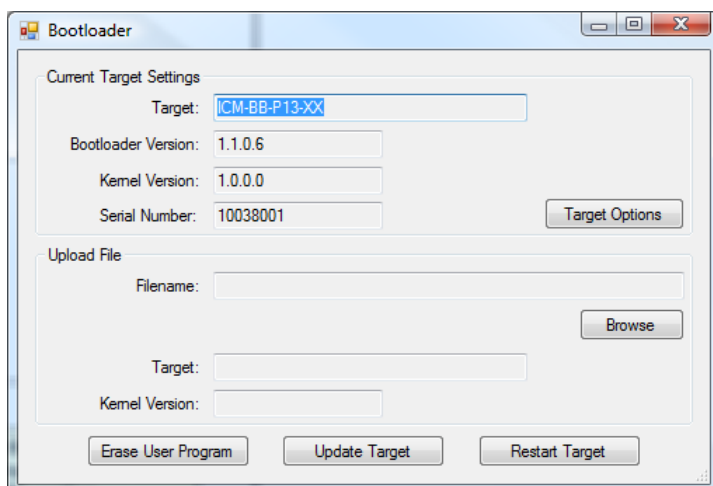

Figure 2-20 - Bootloader
7. Using the menu, click **PROJECT** then **BOOTLOADER**. You may see a window momentarily while EZ LADDER connects to the ICM-BB-P13-XX controller bootloader. The Bootloader window will open. See Figure 2-20.